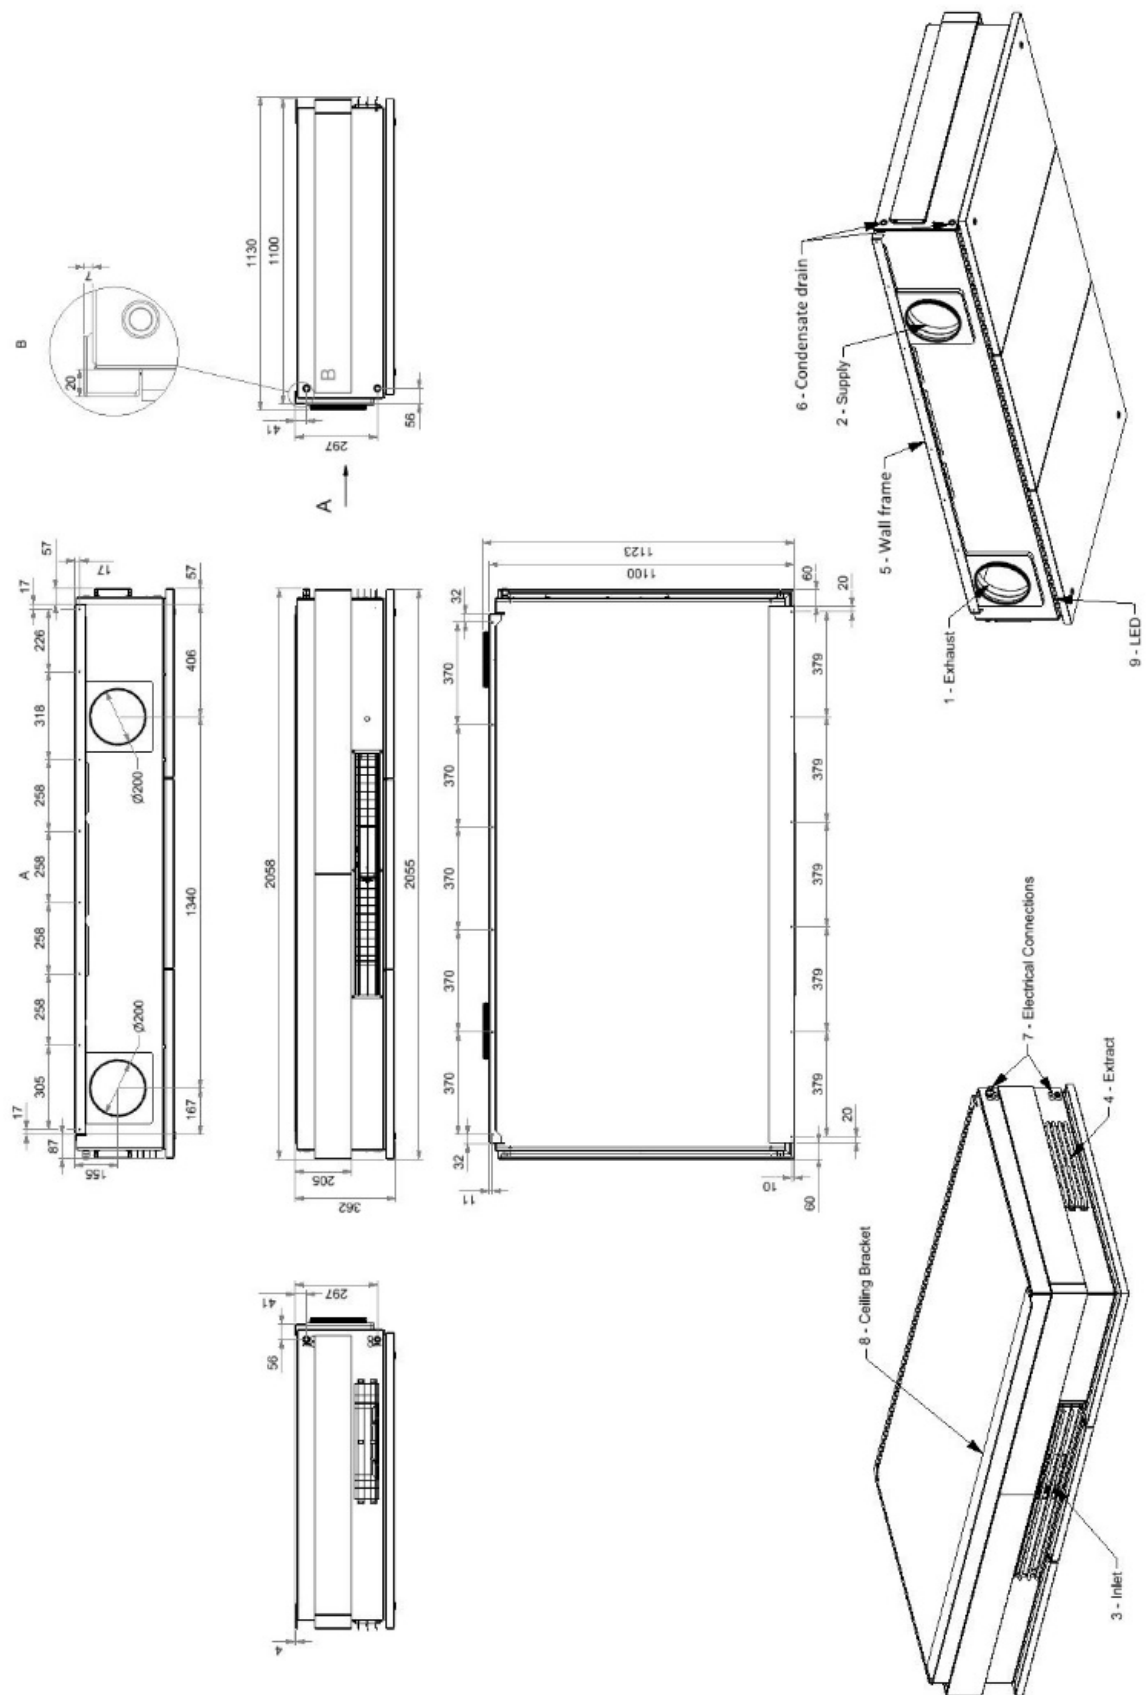

*Figure 57: Lock the right-hand service cover*
5. Lift the right-hand service cover and hinge it onto the middle plate, then lock it, see Figure 56 and Figure 57.